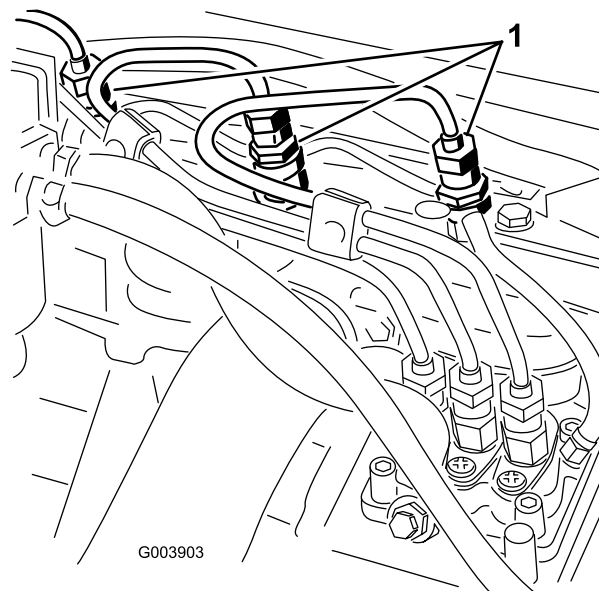

Figure 57
1. Loosen the pipe connection to the No. 1 nozzle and holder assembly (Figure 57).